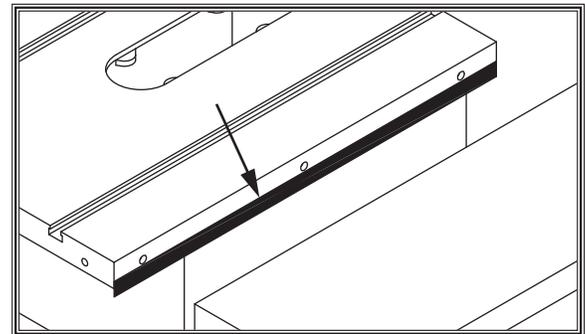

Figure 19. Masking tape location for tilting extension wing up.
- If outside end of extension wing tilts down, place a strip of masking tape along bottom edge of main table to shim end of extension wing up (see **Figure 19**).